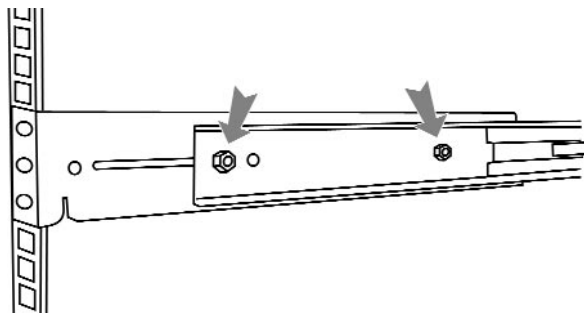

Figure 48 Attach (Long) Extended Brackets
Step 3. Attach left and right rear (long) extended brackets to the outer rail using 2 x 8300045 M4 screws, 2 x 8300045 washers, and 2 x 8300044 nuts for each bracket (FIGURE 48).